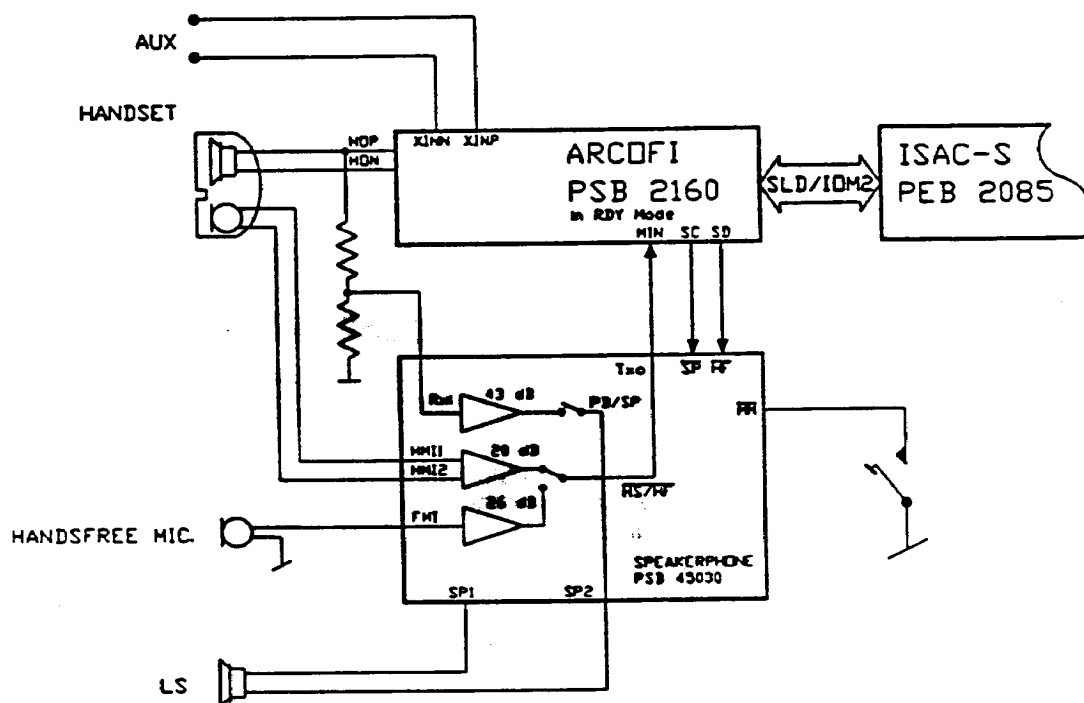

Figure 4.3:
When using the ARCOFI® with a speakerphone circuit PSB 45030 the ready mode RDY in configuration register 3 can be selected. In this particular mode, the MIP/MIN input and the HOP/HON output are activated. The HOP/HON level should be attenuated to match the maximum PSB45030 RXI pin input level. A maximum of 50 mW can be delivered at the PSB 45030 SP1 and SP2 pins in a 50 ohms loudspeaker without using additional discrete circuitry. A block diagram of the combined PSB2160 ARCOFI® and the PSB45030 SPEAKERPHONE is shown in figure 4.3 using the RDY mode.
4.2.8. ARCOFI® PLUS SPEAKERPHONE (FIG 4.3)